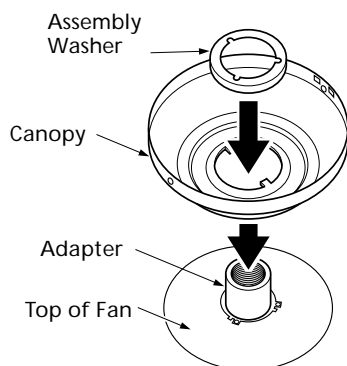

Figure 4c - Placing Canopy and Washer Over Adapter
2. Fit the canopy over the motor hanger adapter as shown in Figure 4c. Make sure the canopy fits snugly against the fan assembly with no space between the pieces.
4. Position the slots in the assembly washer over the threaded holes in the adapter as shown in Figure 4c.